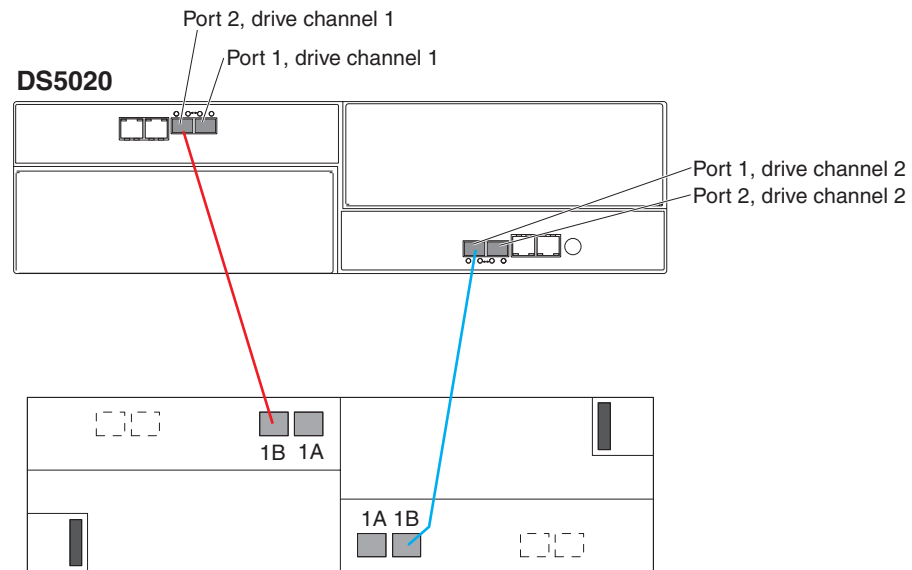

Figure 37. Cabling for one DS5020 and one storage expansion enclosure
If you are cabling one DS5020 storage subsystem to one storage expansion enclosure, Figure 37 shows the correct cabling topology.
**Note:** Figure 37 illustrates the drive channel connections between the DS5020 and the storage expansion enclosures. Do not use Figure 37 as the cabling diagram. Follow the instructions in “DS5020 storage subsystem and supported storage expansion enclosure drive cabling schemes” on page 67 for specific cabling instructions.